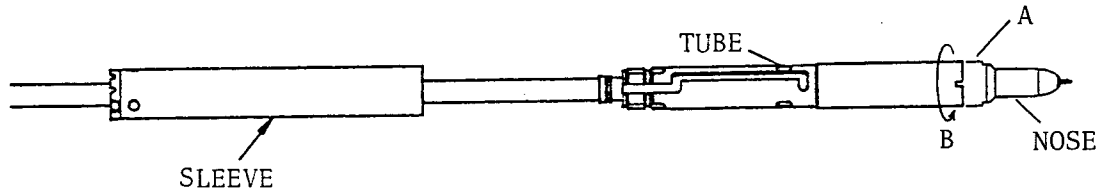

Figure 6-6. NOSE Removal
- a. Use a wrench to hold the NOSE piece at position **A** as shown in Figure 6-6.
- b. Remove the NOSE piece by rotating it in the direction of arrow **B** as shown in Figure 6-6.